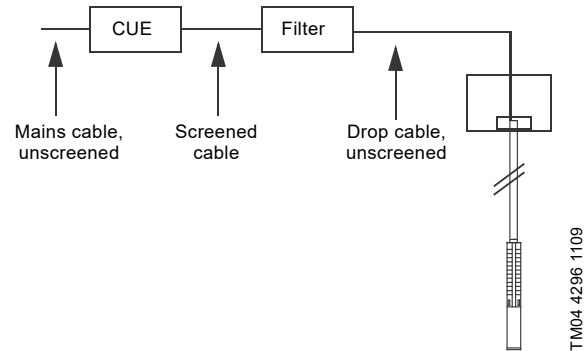

Fig. 49 Example of installation in EMC-insensitive sites
- installation in EMC-insensitive sites. See fig. 49.